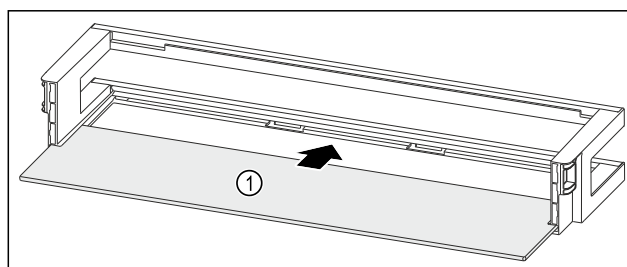

Fig. 178 Door rack with shelf
- Push the shelf Fig. 178 (1) into the side recesses.